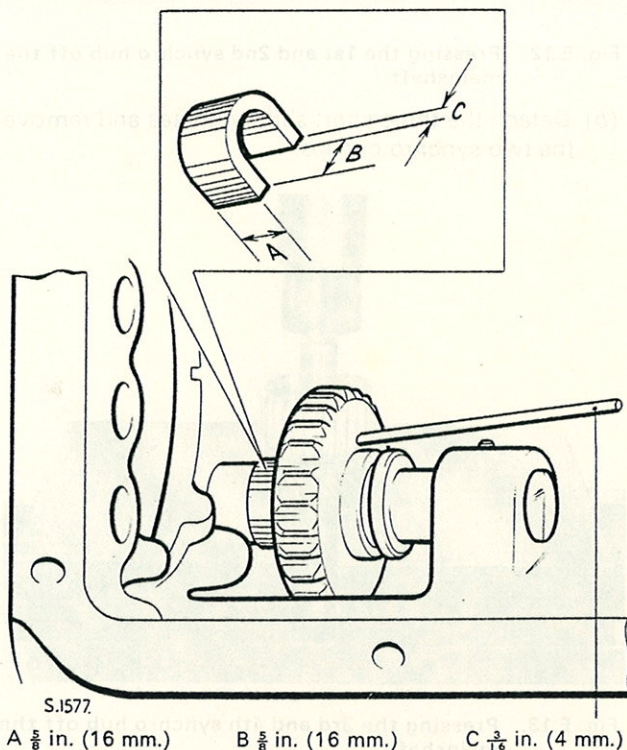

Fig. E.9. Reverse shaft removal tool
22. To remove the reverse gear idler shaft, a tool made locally to the dimensions given in Fig. E.9 should be inserted on the idler shaft in the position shown in the illustration. Using a soft metal drift applied against the gear wheel, through the casing rear aperture, drive the shaft out of the casing. Note that the drift must be applied against the base of the gear wheel and not against the thin shoulder of the selector groove.